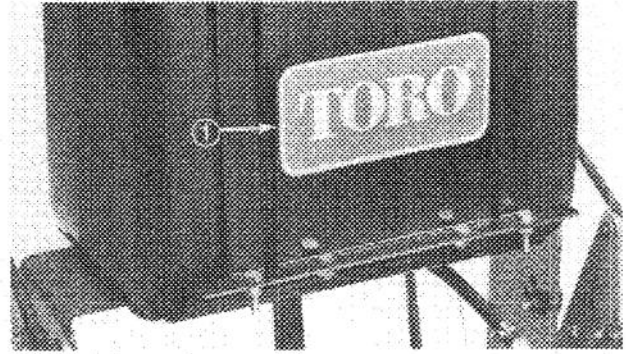

Figure 7
3. Wrap straps over tank and secure to front of mounting plate with (2) 1/4-20 x 5/8" lg. cap screws and locknuts (Fig. 7).
4. Secure fuel tank decal plate to front of mounting plate with (2) 1/4-20 x 5/8" lg. capscrews and lock-nuts (Fig. 7).